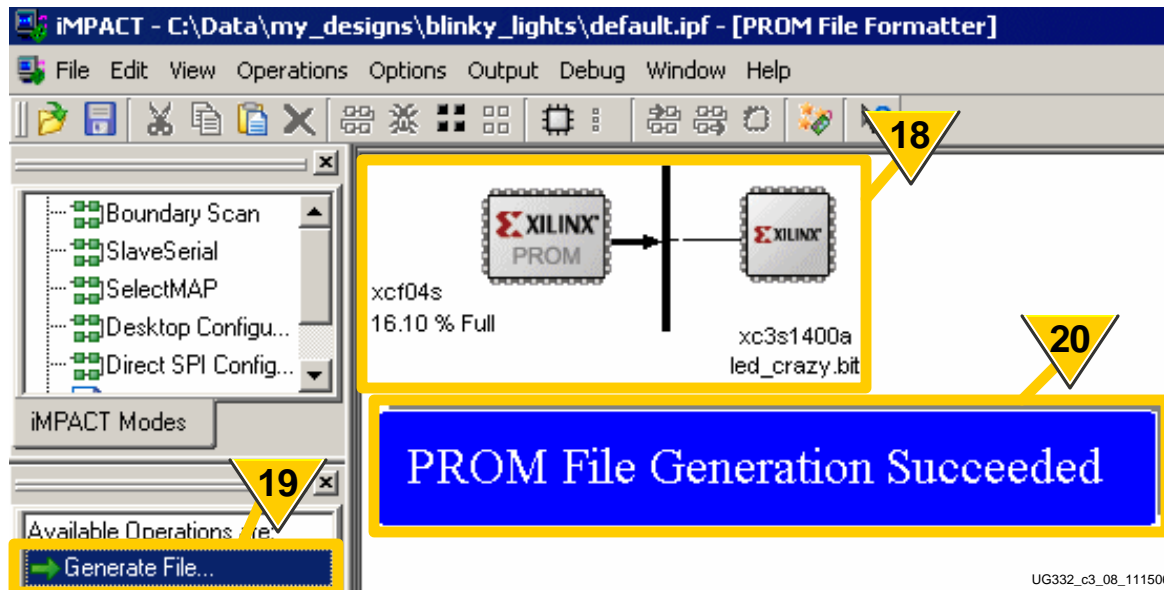

Figure 3-13: Generate PROM File
18. As shown in Figure 3-13, the iMPACT software graphically displays the Platform Flash PROM and associated FPGA bitstream(s).